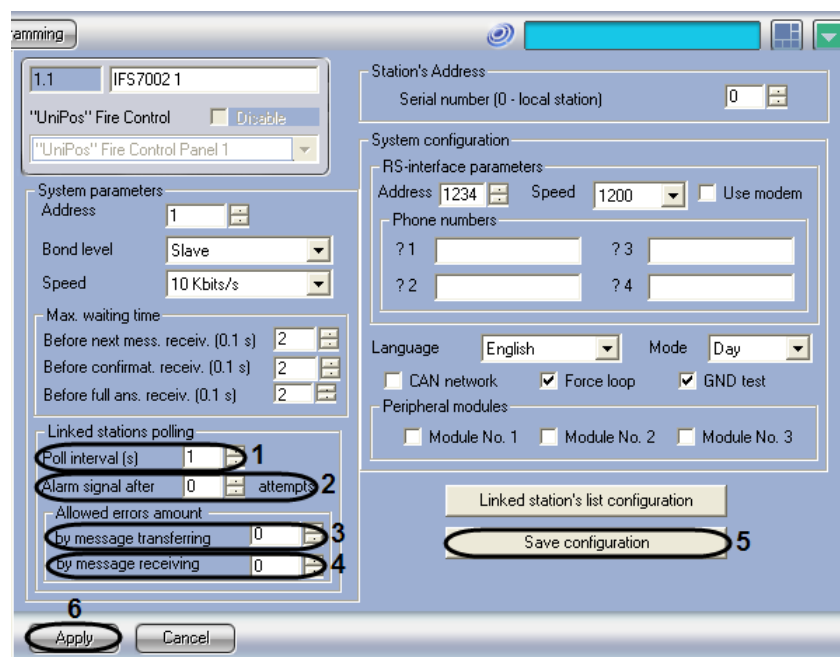

Fig. 3.3—9 Configuring polling of the CAN network stations
1. Go to the settings panel of the “IFS7002” object (Fig. 3.3—9).
2. Enter the time span between 2 sequential connection checks that the FCP runs on the linked stations into the “Poll interval” field. This value is in seconds (see Fig. 3.3—9, 1).
3. Enter the number of successful connection checks that the FCP runs on the CAN network followed by a short alarm signal into the “Alarm signal after...attempts” field. If you enter 0, a successful check is not followed by an alarm. If you enter N, every N successful checks are followed by an alarm (see Fig. 3.3—9, 2).
4. Enter the max. allowed number of CAN errors that may occur during message delivery into the “by message transferring” field under “Allowed errors amount” field. If errors exceed this number, connection with the linked FCP is rated as disrupted (see Fig. 3.3—9, 3).